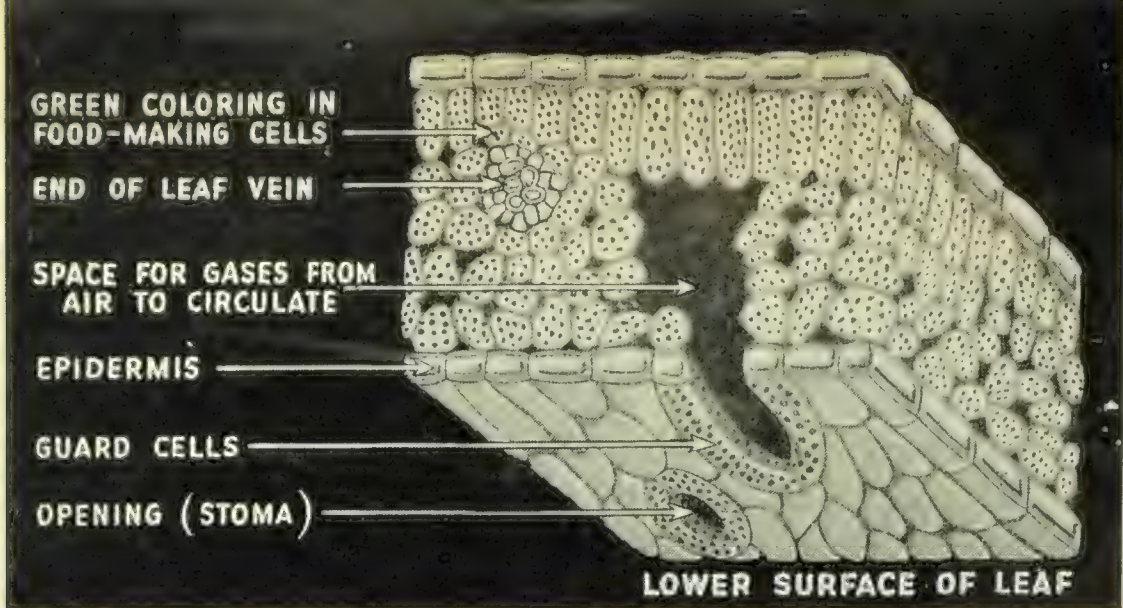

FIG. 97. This drawing shows how the cut edge of a leaf would look if it were enlarged several hundred times.
Look carefully at Figure 97. You can see the end of a vein that brings water to the leaf and carries food away. All around the outside of the leaf is a layer of clear cells called the *epidermis*. Light can shine right through the cells of the epidermis into the inside of the leaf. On the outside of the epidermis is a layer of a waxy material that is waterproof. This layer of material helps keep too much water from evaporating from the cells of the epidermis.
**Experiment 36. WHAT DOES THE EPIDERMIS OF A LEAF LOOK LIKE THROUGH A MICROSCOPE?** Your teacher will show you, through a microscope, the epidermis that has been peeled off some common leaf, like that of a geranium or an onion. Look at it carefully and also study carefully what is shown in Figures 97 and 98.
In most leaves the colorless cells of the epidermis are of irregular shapes. Can you see them? In some places there are pairs of tiny bean-shaped cells. Between each pair of these cells is an opening through the epidermis. Look at the pair of cells and the opening between them in Figures 97 and 98.
The pairs of cells are called *guard cells*. The little opening between each pair of guard cells in the epidermis is called a *stoma*. (The plural is *stomata*.) "Stoma" is the Greek word for mouth. Notice that each opening in Figures 97 and 98 is shaped like a little mouth. The carbon dioxide from the air enters the leaf through these little mouths.
Many experiments somewhat like the one you have done show that leaves make sugar and starch only when they are in the light. If green plants are kept in darkness for a long time, they will die. They die because they can no longer make food. Other experiments show that the green coloring in leaves helps make food. Figure 97 shows that the green material is in little green bodies that are scattered through the central part of the leaf. They make the entire leaf appear green. This green material is called *chlorophyll*. Plants must have light in order for chlorophyll to form in the green bodies. Plants that do not have chlorophyll cannot make carbohydrates. Many experiments have been done by scientists to prove that this is true.